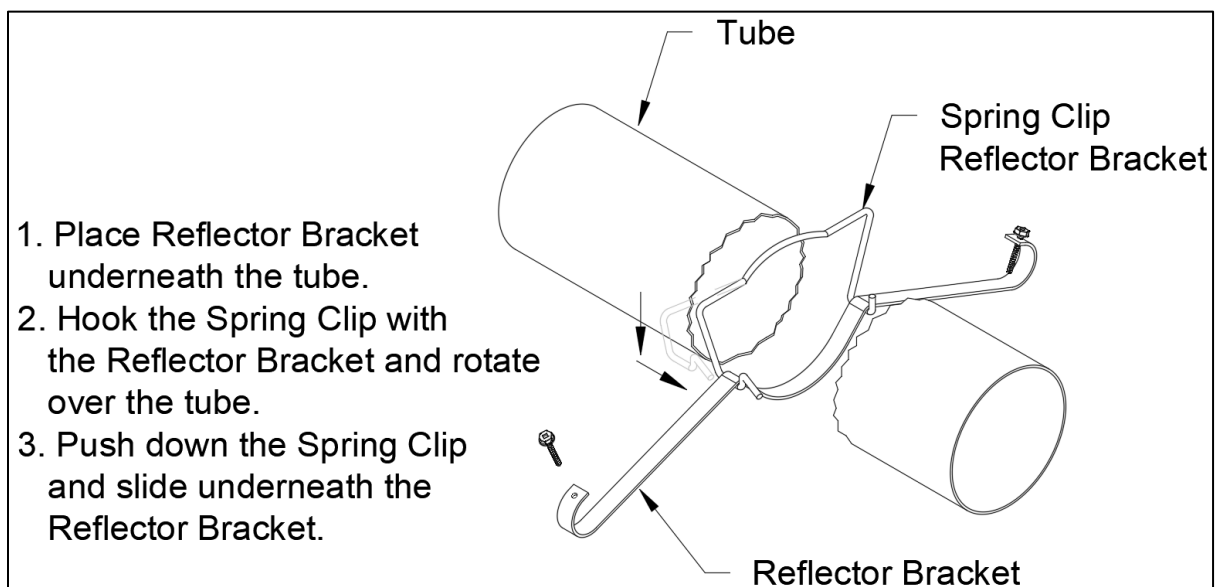

Figure 17: Reflector Support Bracket Installation
- Install reflector support brackets, one at each reflector overlap position, and one in the middle of each 10' reflector length. Figure 17 shows the installation of the reflector support bracket.